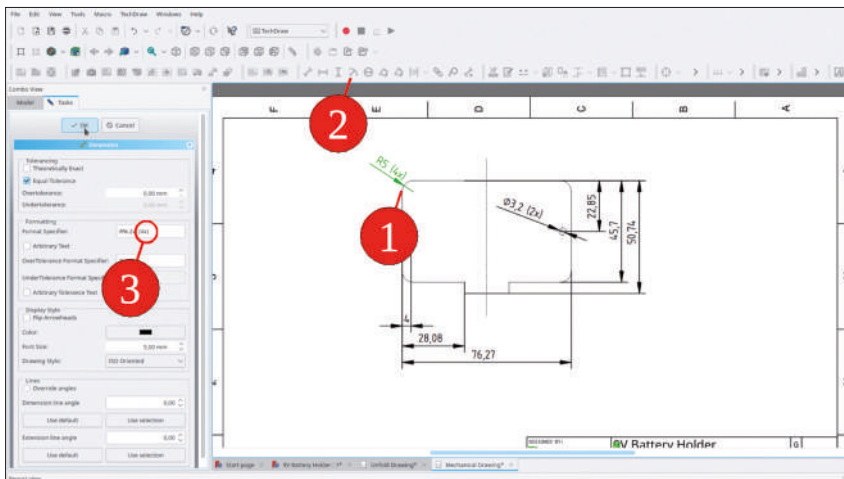

Figure 5-41
12. Then, mark one of the rounded corners and click the 'Insert Radius Dimension' tool button. In the tree view, double-click the radius dimension and add '(4x)' to the 'Format Specifier' field (Figure 5-41).